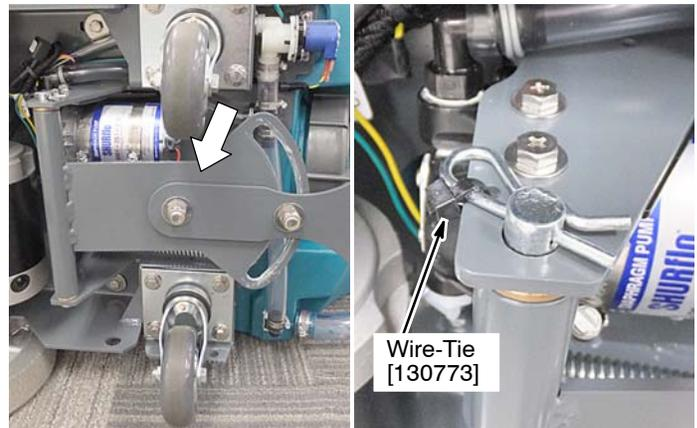

Fig. 45
- Replace the squeegee mount bracket and re-secure clevis pin with wire-tie (Figure 45).